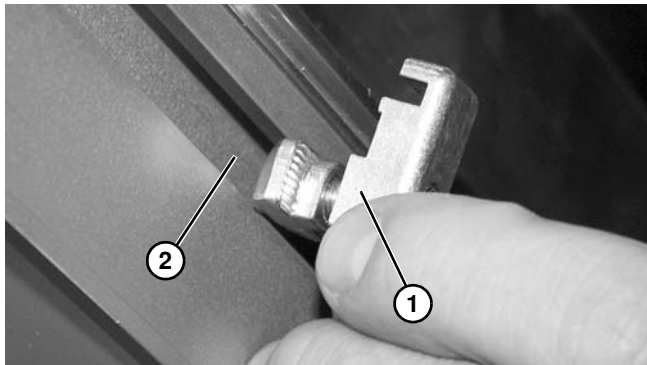

Figure 14
1. Install guide clip assembly (**Figure 14, item 1**) into conveyor t-slot (**Figure 14, item 2**) as shown.